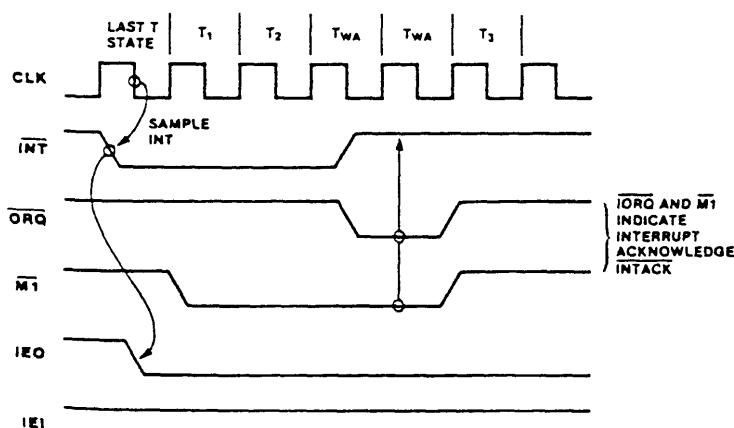

Figure 18. Interrupt Acknowledge Timing
**Interrupt Acknowledge Timing.** During  $\overline{M1}$  time, peripheral controllers are inhibited from changing their interrupt enable status, permitting the Interrupt Enable signal to ripple through the daisy chain. The peripheral with  $\overline{IEI}$  High and  $\overline{IEO}$  Low during  $\overline{INTACK}$  places a reprogrammed 8-bit interrupt vector on the data bus at this time (Figure 18).  $\overline{IEO}$  is held Low until a Return From